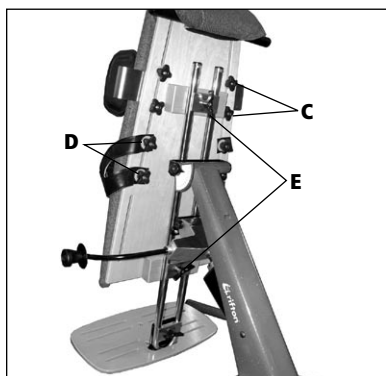

Figure 2
- Retighten knobs (see figure 2).